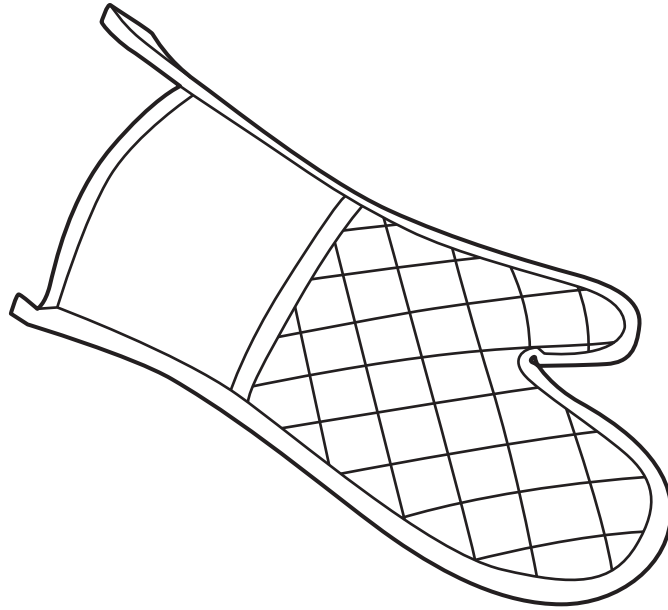

Fig. 10
Fig. 10 shows a quilted oven mitt.
(a) Give FOUR justified design requirements for the oven mitt shown in Fig. 10.
- (ii) Describe, in detail, how the oven mitt shown in Fig. 10 would be manufactured in a batch of 10,000.**